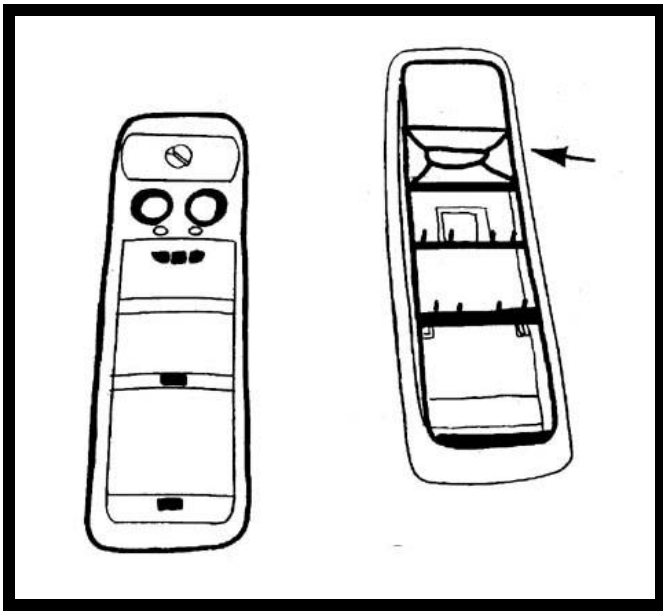

FIGURE 3
3. Discard trim ring. See Figure 3.